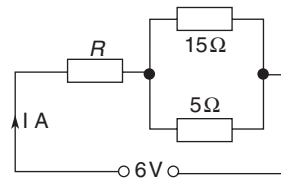

Fig. 20
3. Find the value of the resistor R in the circuit of Figure 20.